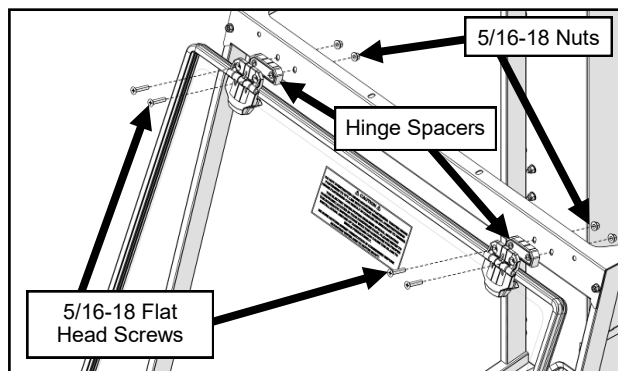

Fig. 11.1 (Windshield)
- 11.1 With assistance, set the windshield up to the side frames and secure it to the windshield support using the hinge spacers and hardware. See Figure 11.1. Leave hardware loose.